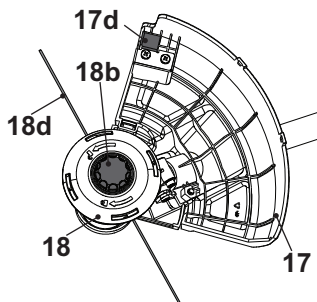

Fig. 26
1. Tap the bumper (18b) on solid ground and the trimmer head (18) will release trimming line (18d).
2. Excess line will be cut by the knife (17d) (Fig. 26).